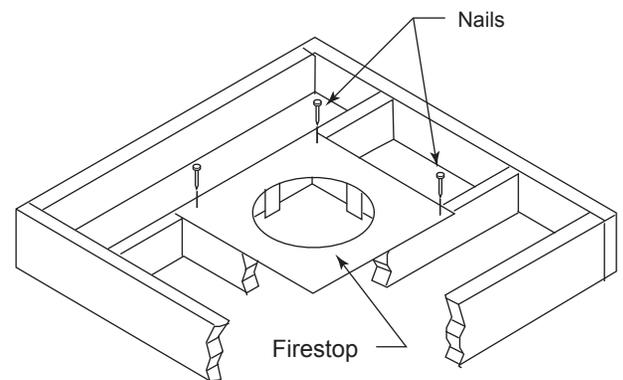
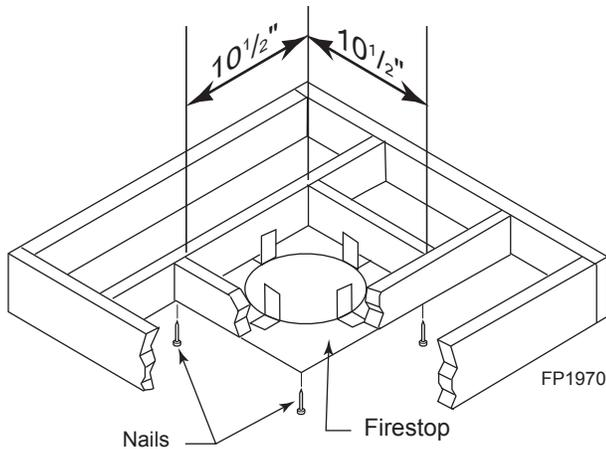

Figure 24 - If Area Above is a Room, Install Firestop above Framed Hole as Shown
Figure 25 -
NOTE: Pay special attention to these installation instructions for required clearances (air space) to combustibles when passing through ceilings, walls, roofs, enclosures, attic rafters, etc. Do not pack air spaces with insulation. Also note maximum vertical rise of the venting system and any maximum horizontal offset limitations. Offsets must fall within the parameters shown in Figures 24 and 25.
1. Cut a 10½" (241 mm) square hole in the ceiling using the locating hole as a center point. The opening should be framed to 10½"x10½" (241 mm x 241 mm) inside dimensions as shown in Figure 25 using framing lumber the same size as the ceiling joist. If the area above the ceiling is an insulated ceiling or a room, nail firestop from the top side. This prevents loose insulation from falling into the required clearance space. Figure 24. Otherwise, install firestop below the framed hole. Figure 25